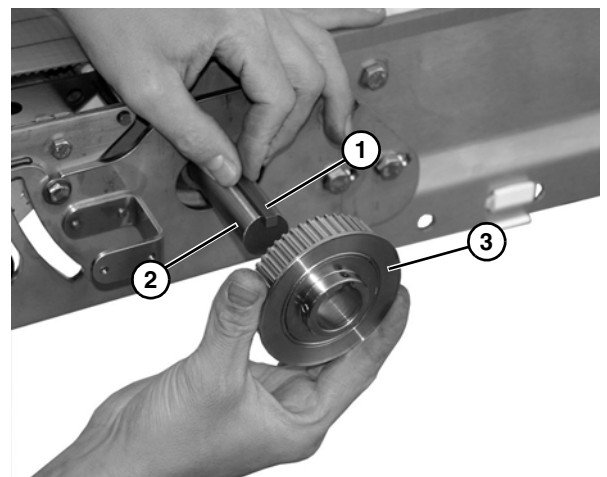

Figure 14
- Install key (**Figure 14, item 1**) onto conveyor shaft (**Figure 14, item 2**).
- Install drive pulley (**Figure 14, item 3**) onto end of conveyor shaft.